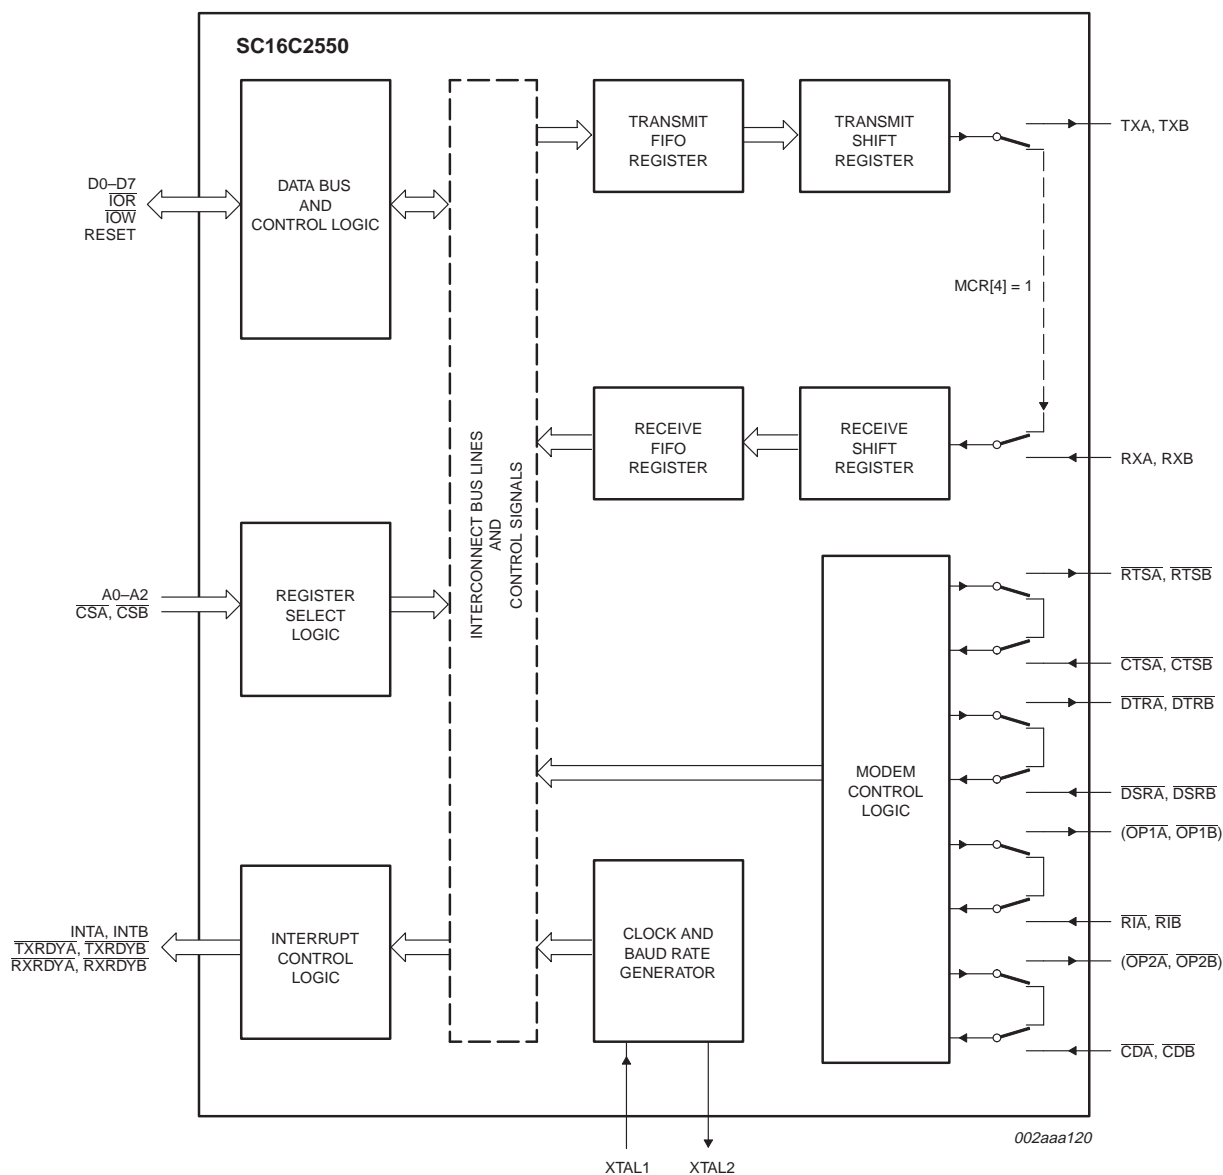

Fig 6. Internal loop-back mode diagram.
The internal loop-back capability allows on-board diagnostics. In the loop-back mode, the normal modem interface pins are disconnected and reconfigured for loop-back internally (see Figure 6). MCR[0-3] register bits are used for controlling loop-back diagnostic testing. In the loop-back mode, the transmitter output (TX) and the receiver input (RX) are disconnected from their associated interface pins, and instead are connected together internally. The  $\overline{\text{CTS}}$ ,  $\overline{\text{DSR}}$ ,  $\overline{\text{CD}}$ , and  $\overline{\text{RI}}$  are disconnected from their normal modem control inputs pins, and instead are connected internally to  $\overline{\text{RTS}}$ ,  $\overline{\text{DTR}}$ , MCR[3] ( $\overline{\text{OP2}}$ ) and MCR[2] ( $\overline{\text{OP1}}$ ). Loop-back test data is entered into the transmit holding register via the user data bus interface, D0-D7. The transmit UART serializes the data and passes the serial data to the receive UART via the internal loop-back connection. The receive UART converts the serial data back into parallel